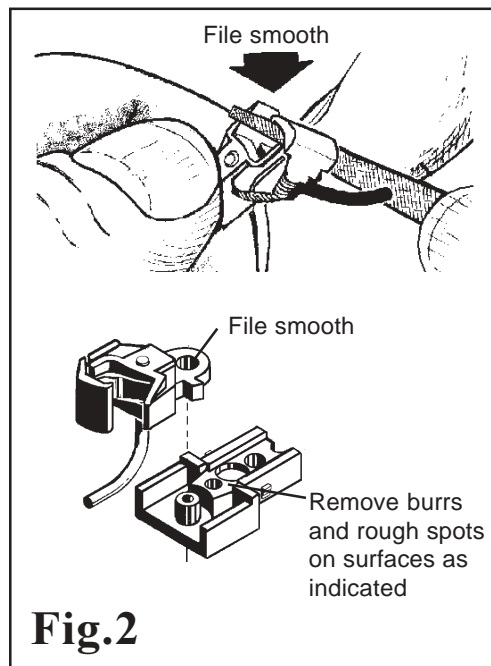

Fig.2
1. IMPORTANT: Before assembling Couplers, check arrow-marked areas shown in Fig.2 for burrs and rough spots. Remove all flash and burrs with fine file or a hobby knife to assure freedom of movement after the Coupler is assembled.
2. Burnish the surfaces indicated by arrows in Fig. 2 with Kadee® #231 Greas-em, a fine, dry lubricant specially suited for Kadee® Couplers. **DO NOT** skimp on steps 1 and 2, they are mandatory for smooth, trouble-free, Coupler performance.